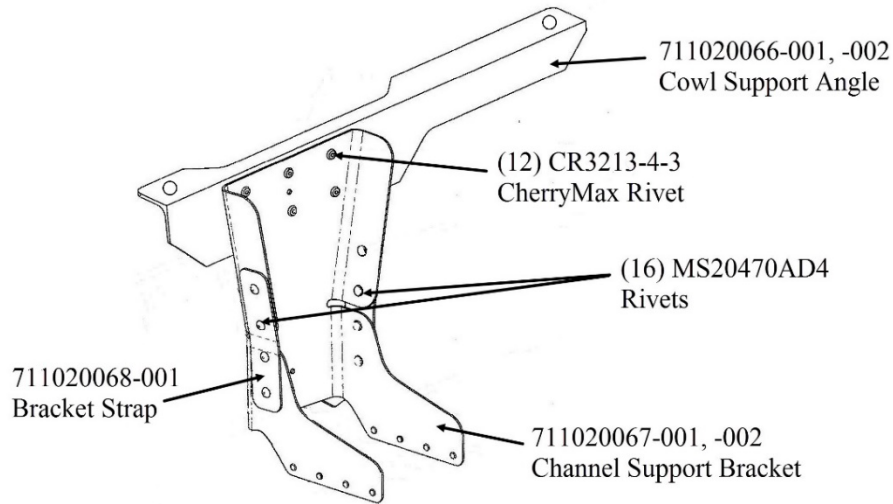

Figure 8-6
- E. Assemble (2) Cowl Support Angle, (2) Channel Support Bracket, and (4) Bracket Straps by stepping up all pilot holes to .128" dia. Assemble using hardware in Figure 8-6.